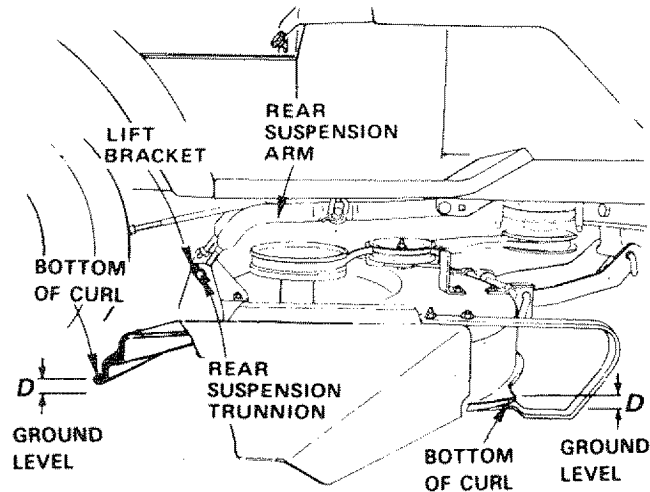

FIGURE 40
- To obtain the best cutting results, your mower housing should be adjusted so the front and rear flange distance "D" (Fig. 40) is 1/2" (12.7 mm) lower in front when the mower is positioned in the highest cutting position.